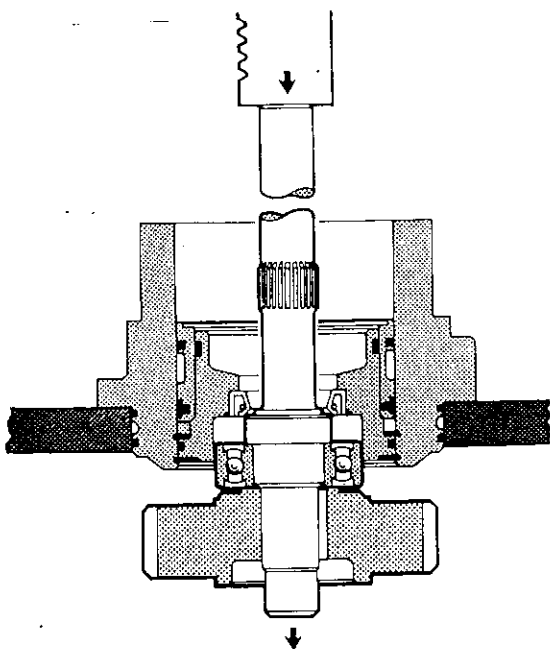

Figure 3.6
13. Support the drive housing and press out drive shaft (28), drive shaft bearing (10), and drive gear (9) as shown in Figure 3.6.